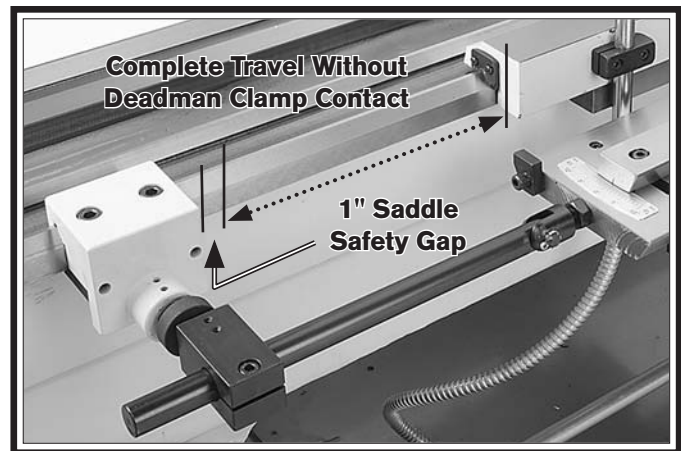

Figure 18. Saddle gap.
27. Slide the deadman clamp along the lathe way to a position where the saddle will not contact the clamp when cutting tapers. There should be approximately 1" of safety clearance or "saddle safety gap," as shown in **Figure 18**. You must double check this clearance to prevent a deadman clamp carriage crash.
31. Using 8mm and 6mm hex wrenches, tighten the deadman clamp and the arm clamp cap screws, as shown in **Figure 18**.